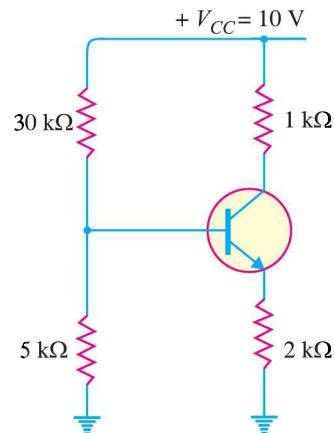

Fig. 9.51
8. In a transistor circuit shown in Fig. 9.51, find the operating point. Assume silicon transistor is used.  $I_C = 0.365mA$ ,  $V_{CE} = 8.9V$